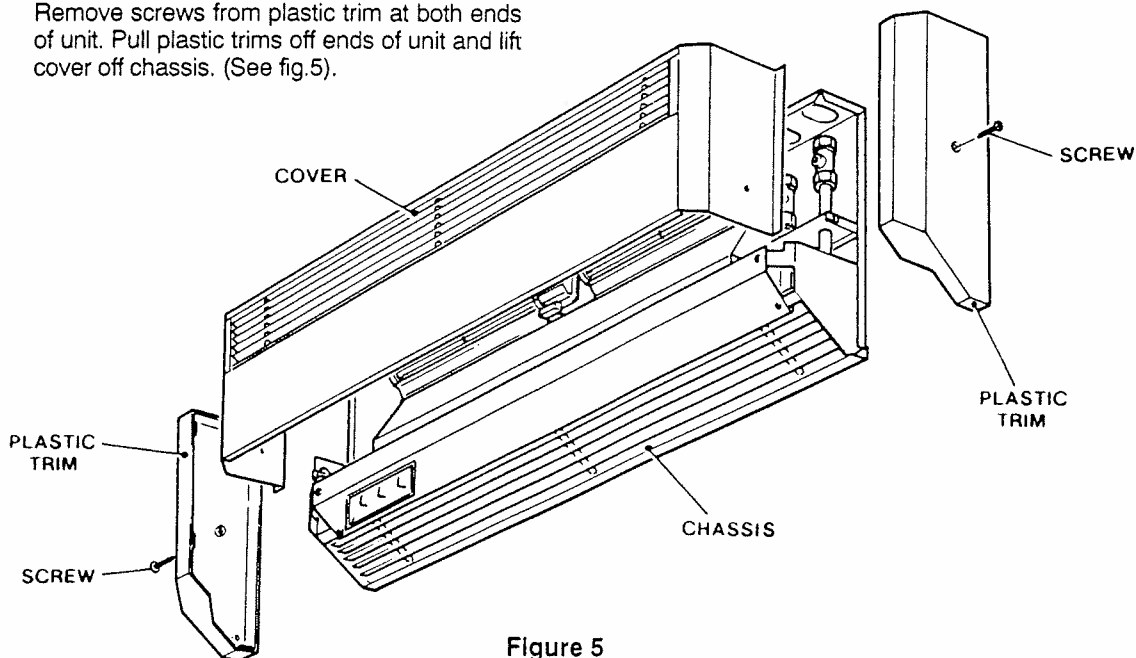

Figure 5
3. Remove screws from plastic trim at both ends of unit. Pull plastic trims off ends of unit and lift cover off chassis. (See fig.5).
- Replace cover on chassis then push plastic end trims onto the unit ensuring the three clips moulded in each trim engage properly on the unit. Replace screws through trims into captive nuts in unit and tighten (see fig 5)